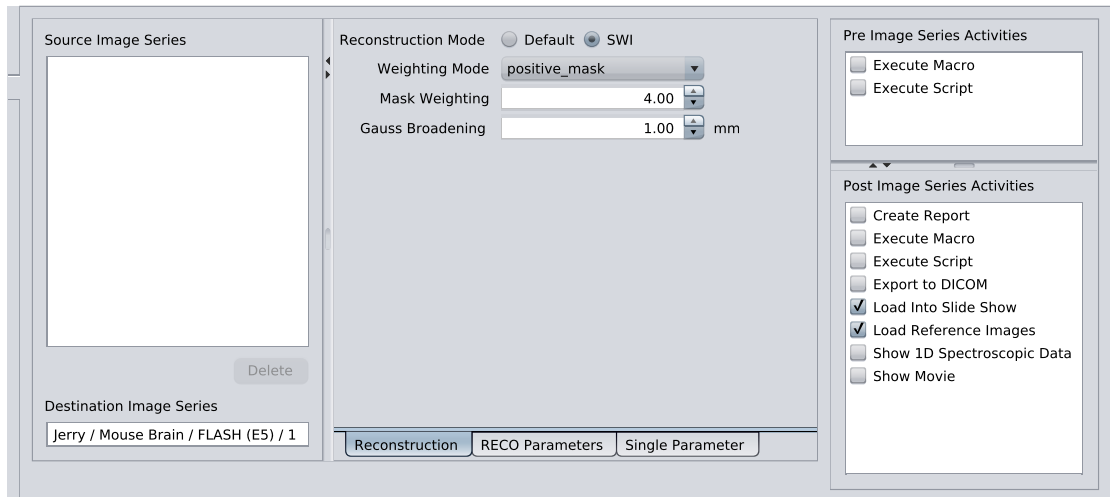

Figure 3.22: Reco Processing Editor
4. In the opened editor on the right there are lists of pre image series activities and post image series activities (see Figure 3.22 [▶ 705]). In the corresponding list mark **Execute Macro**.